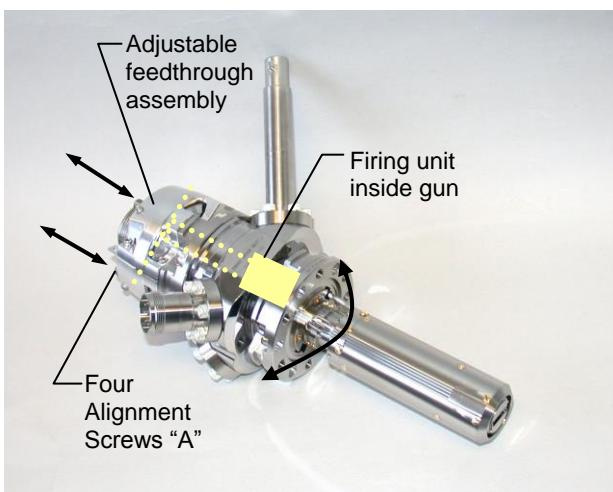
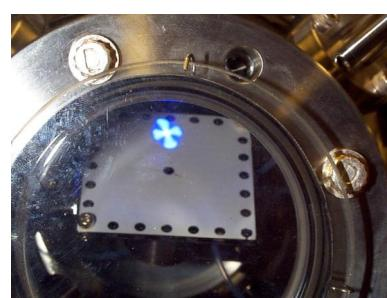

Fig. 4.3-1 EGG-3101B Alignment, arrows show motion of screws and resulting motion of firing unit assembly
Fig. 4.3-3 LaB₆ unfocused Maltese cross spot on phosphor screen in vacuum
4. Prepare the four Alignment Screws for adjustment: (Fig. 4.3-1 and Fig. 4.3-3)
- b. Using a $\frac{5}{64}$ " Allen wrench, turn each socket head Alignment Screw ("A" in Figs. 4.3-1 and 4.3-4) to advance or retract the screw assembly as needed. The threads on the alignment screws are very fine and adjustments should be made very gradually.